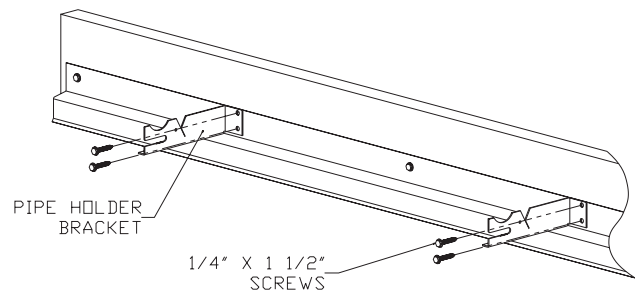

Figure 10
2. Install the pipe holder bracket to the top stringer by lining up the hole pairs in the top filler sections with the hole pairs on pipe holder bracket as shown in Figure 10. Attach the pipe holder brackets to the stringers with 1/4" x 1 1/2" hex head screws as shown in figure 10.